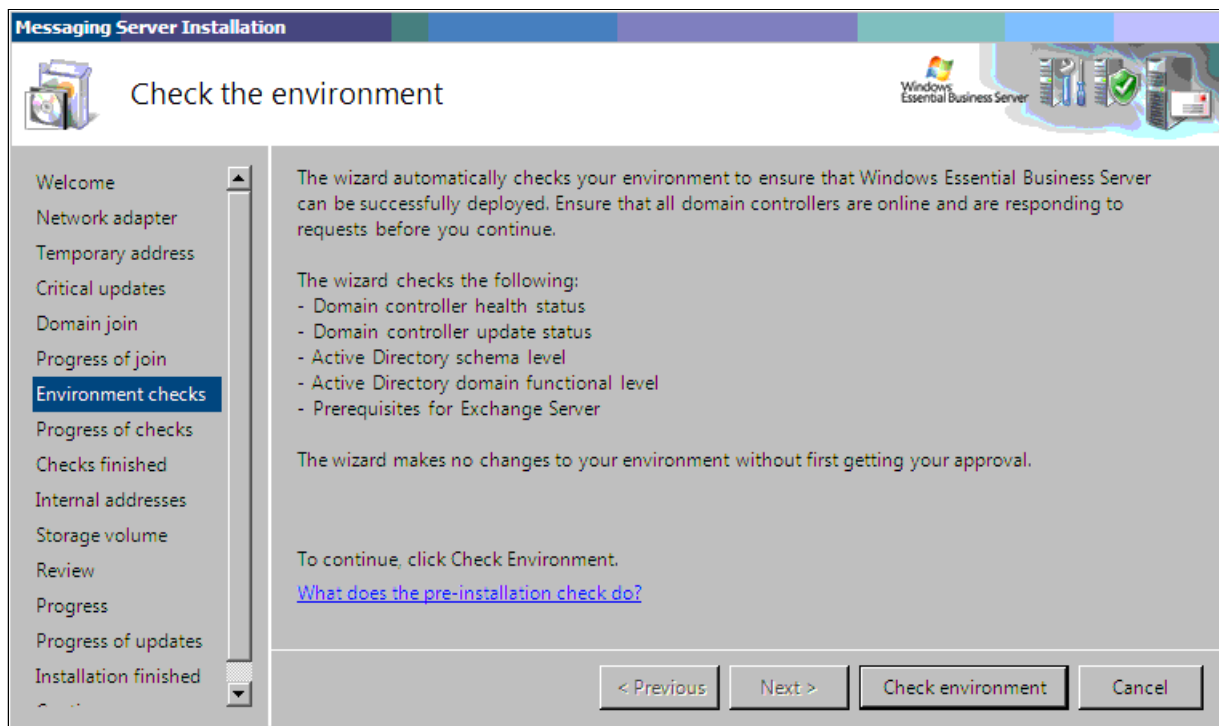

Figure 4-41 Check the environment
13. On the “Check the environment” panel (Figure 4-41), the installation wizard checks your environment to verify that it is compatible with Windows EBS. Read and follow the directions on the window and click **Check environment**.